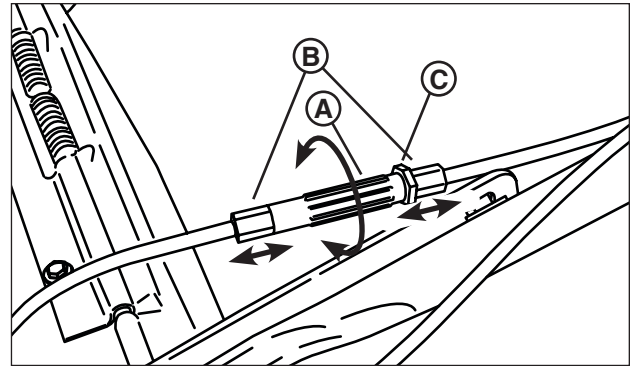

Figure 19: Adjusting the drive cable
- If the transmission does not engage, increase drive cable tension by loosening the jam nut (**C, Figure 19**) and rotating the turnbuckle (**A**) counter-clockwise one-half turn to move the ferrules (**B**) out from the turnbuckle. Tighten the jam nut against the turnbuckle. Check and repeat as needed.